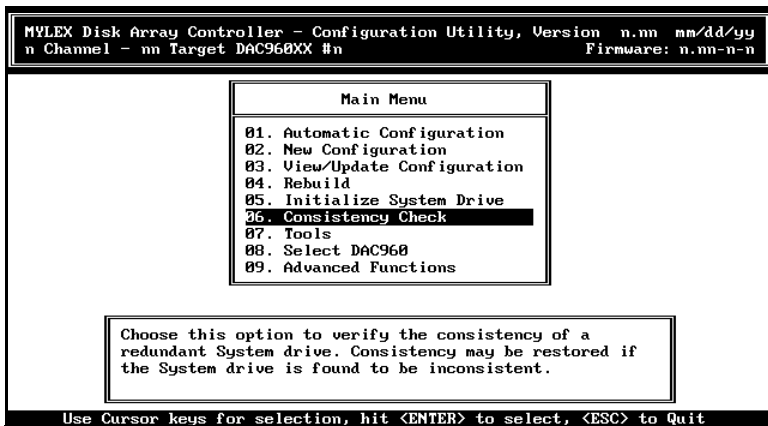

Figure 3-7. Consistency Check Option
1. Select **Consistency Check** from the Main menu (Figure 3-7).